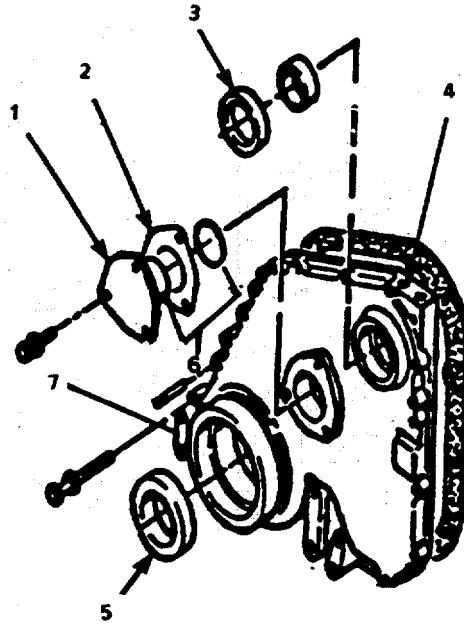

FIGURE 3-50. Gear Housing (Cover).
- (4) Remove the preformed packing and the shims from the bearing support. Do not dispose of the shims (2, FIGURE 3-50).
- (6) Install the required number of thrust shims as determined in paragraphs (4) and (5) above and new preformed packing on the support bearing.
- (7) Lubricate the preformed packing with vegetable oil and install the support bearing into the gear cover.
- (8) Tighten the capscrews to 20 ft-lb torque.
k. Install the front crankshaft seal.(5, FIGURE 3-50).